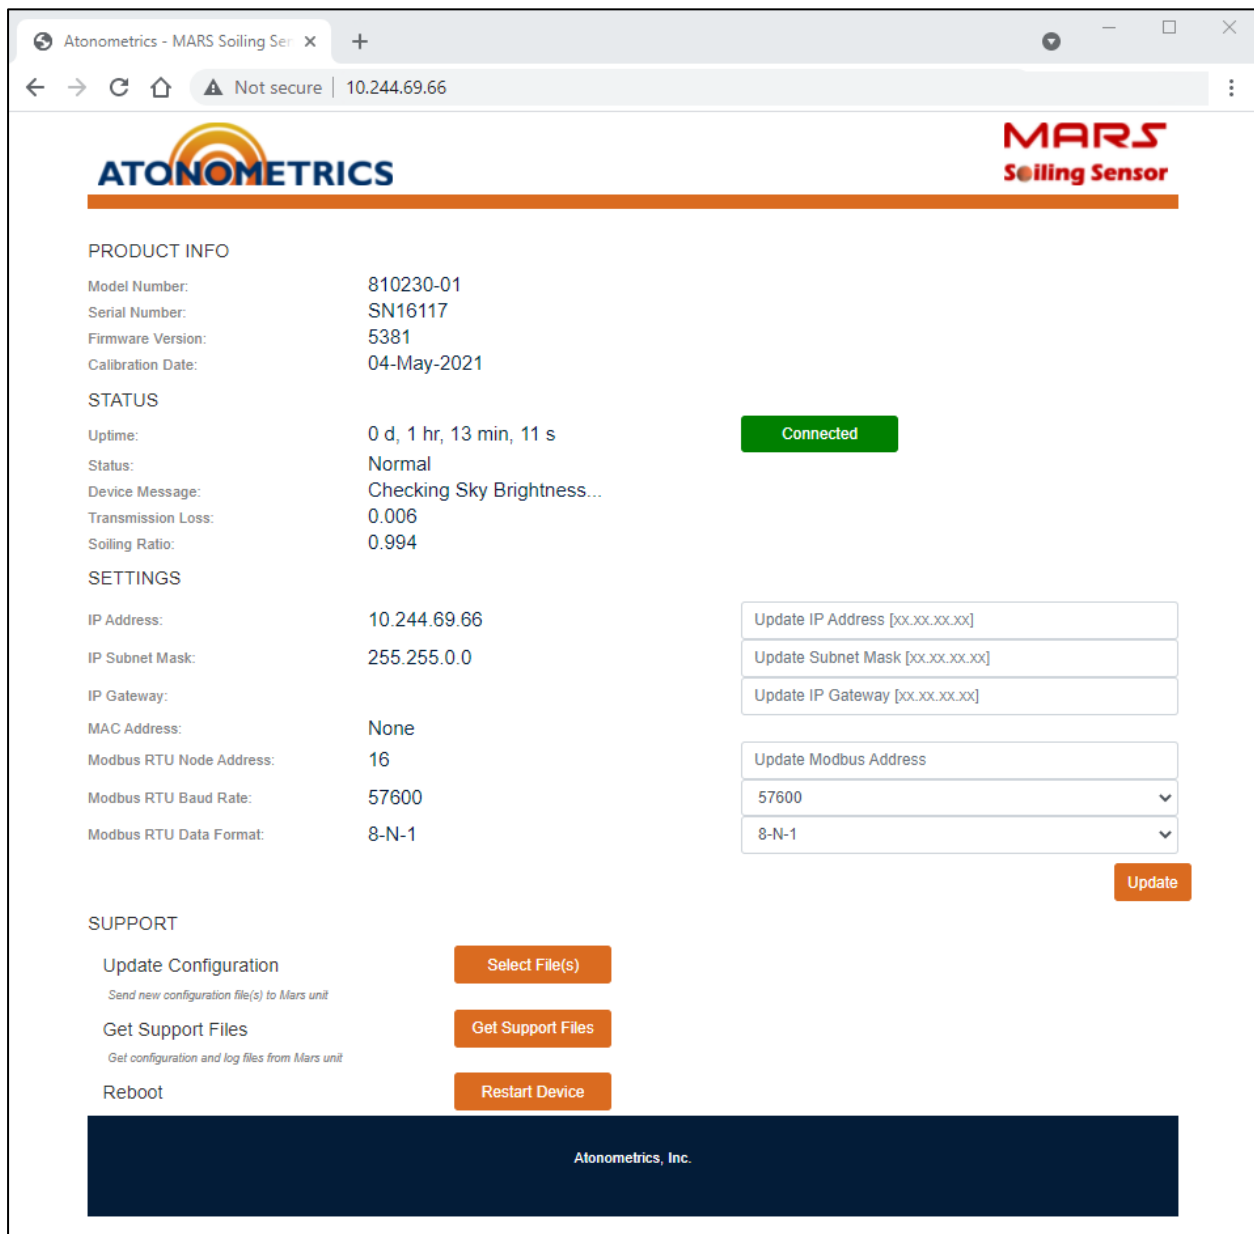

Figure 2-2: Web interface
Launch the web browser on your PC and enter the Mars™ IP address (default = 10.244.69.66). You will then see the Mars™ web interface shown in **Figure 2-2**.
Your unit's current installed Firmware Version number is shown near the top of the web interface (**Figure 2-2**). If the version you downloaded in Step 2.1 is newer, update the firmware before proceeding.
To change your Mars™ unit's IP address, enter the new address, as well as any desired subnet mask and gateway, using the web interface (**Figure 2-2**), then press "Update".
- To change the node address, enter the new address using the web interface (**Figure 2-2**), then press "Update".
Check the Status field on the web interface (**Figure 2-2**) and confirm it reads "Normal". If an error condition is shown, confirm all configuration settings. If the error persists, contact Atonometrics for support.